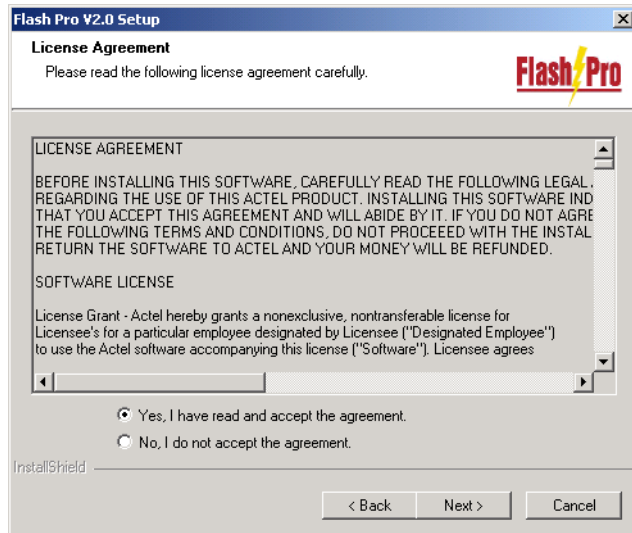

Figure 1-2. License Agreement
3. Click **Yes** then **Next** to accept the license agreement, as shown in Figure 1-2.